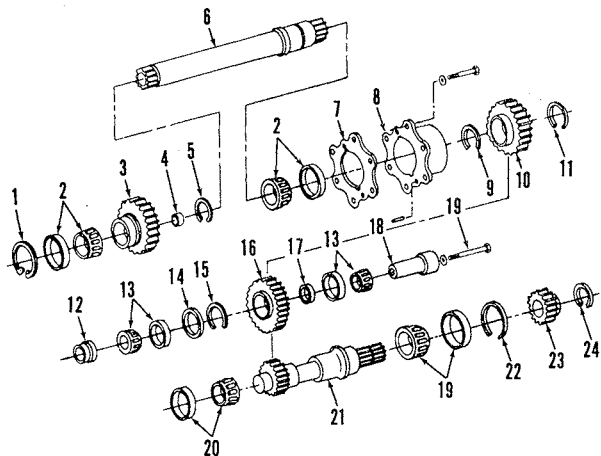

Fig. 178—Exploded view of mechanical front-wheel drive power train used on 4050, 4250 and 4450 Power Shift models.
150. CLUTCH IDLER SHAFT. To remove clutch idler shaft (21—Fig. 178), tractor must first be split between engine and clutch housing as outlined in paragraph 131. Remove MFWD clutch assembly as
151. IDLER GEAR. To remove MFWD idler gear (16—Fig. 178), the clutch housing must be separated from the transmission and engine as outlined in paragraph 134. Remove pto clutch as outlined in paragraph 199. Remove cap screw (19) securing idler gear shaft (18). Thread a 5/8 × 2 inch cap screw into end of idler shaft to use as a handle, then pull shaft from clutch housing. It may also be necessary to drive on rear of shaft if shaft is stuck. Remove spacer (12) and lift out gear with bearings.
152. DRIVER SHAFT. To remove driver shaft (6—Fig. 178) assembly, the transmission housing must be separated from clutch housing as outlined in paragraph 134. Remove snap ring (11), gear (10) and snap ring (9) from front of shaft. Unbolt and remove bearing retainer (8) with shims (7).